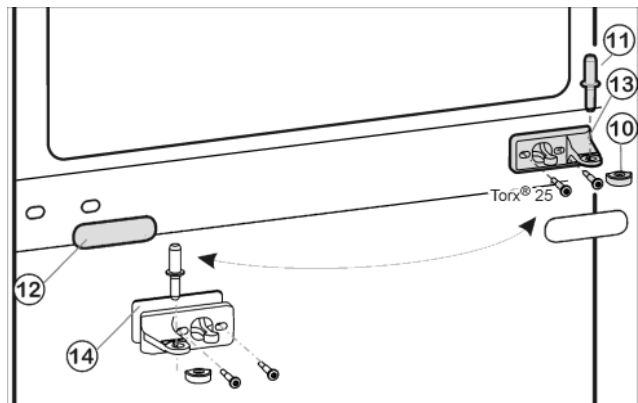
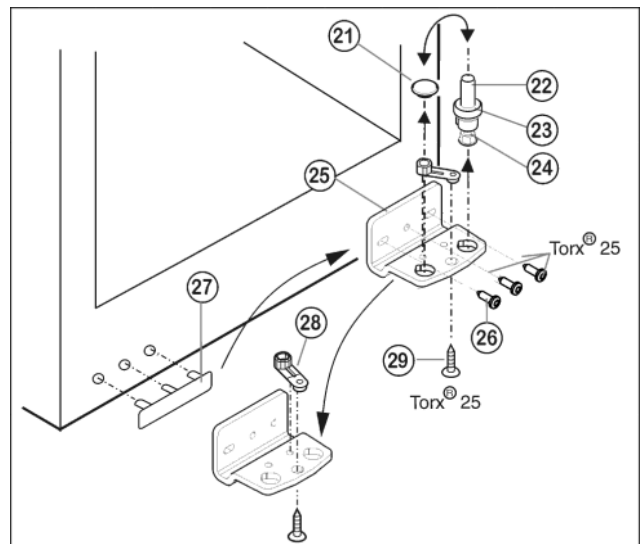

Fig. 7
Fig. 8
- ▶ Draw the middle bearing pin Fig. 7 (11) out of the turn hinge and lower door.
- ▶ Remove the plastic cap Fig. 7 (10).
- ▶ Unscrew the middle turn hinge (2x Torx® 25). Fig. 7 (13)
- ▶ Carefully detach the cover panel Fig. 7 (12).
- ▶ Turn the middle turn hinge Fig. 7 (13) with the washer Fig. 7 (14) through 180° and screw it firmly into place on the new hinge side (with 4 Nm).
- ▶ Turn the cover panel Fig. 7 (12) through 180° and snap it into place again on the new handle side.
- ▶ Lift out the bearing pin Fig. 8 (22) together with washer Fig. 8 (23) and foot Fig. 8 (24).
- ▶ Lift off the stopper Fig. 8 (21).
- ▶ Unscrew Fig. 8 (26) the turn hinge Fig. 8 (25).
- ▶ Unscrew Fig. 8 (29) the bearing element Fig. 8 (28), transfer it to the opposite location hole of the turn hinge and screw it firmly into place.
- ▶ Carefully lift off the cover on the handle side *Fig. 8 (27)* and transfer it to the opposite side.
- ▶ Screw the turn hinge *Fig. 8 (25)* firmly into place on the new hinge side, possibly using a cordless screwdriver (**with 4 Nm**).
- ▶ Re-insert the stopper *Fig. 8 (21)* into the other hole.
- ▶ Re-insert the bearing pin *Fig. 8 (22)* together with washer and foot. In so doing, pay attention that the locating lug points backwards
- ▶ Place the lower door from above onto the lower bearing pin *Fig. 8 (22)*.
- ▶ Place the plastic cap *Fig. 7 (10)* back onto the middle turn hinge *Fig. 7 (13)*.
- ▶ Place the middle bearing pin *Fig. 7 (11)* in the lower door, on the new hinge side, through the middle turn hinge *Fig. 7 (13)*.
- ▶ Place the upper door on the middle bearing pin *Fig. 7 (11)*.
- ▶ If necessary, align the doors to the appliance housing by way of the two oblong holes in the bottom turn hinge *Fig. 8 (25)* and middle turn hinge *Fig. 7 (13)*. To do so, unscrew the middle screw in the bottom turn hinge *Fig. 8 (25)*.